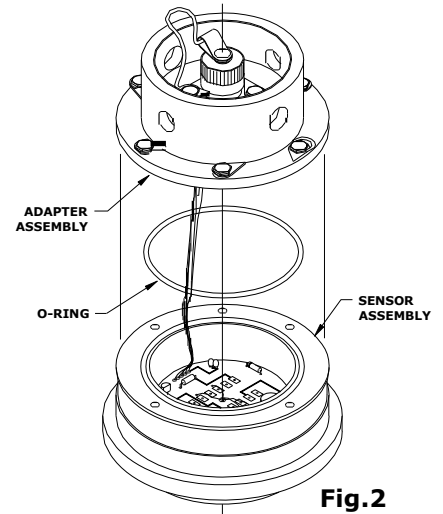

Fig.2
5. When installing the pressure transmitter, hand tightening of the hammer union nut is recommended. Use of a hammer to tighten the hammer union nut is discouraged because inadvertent blows to the transmitter may result in damage. To ensure a watertight seal between the adapter and sensor, the O-ring, should be inspected and replaced if needed, whenever the transmitter is disassembled. (Figure 2)